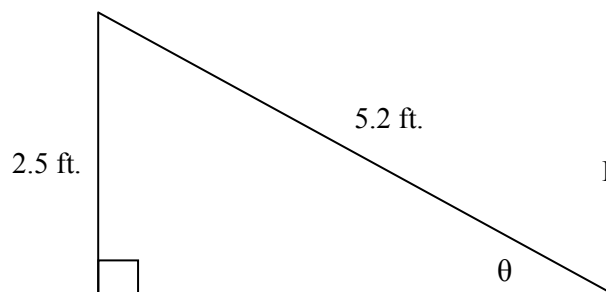

Figure 7-2: Right triangle
2. In this example, in Figure 7-2, we are solving for the value of angle θ . We already know the length of two sides and one angle (the right angle), which is sufficient.